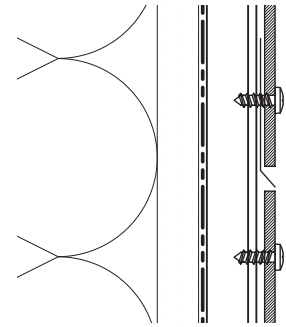

Fig. 2 · Horizontal Joint Closure.
6. Horizontal joints between square edge boards are closed using the EF horizontal joint closure provided by NorthClad® (Fig. 2). The purpose of this closure is to minimize insect nesting and deflect water. The closure should be installed at all horizontal panel joints.